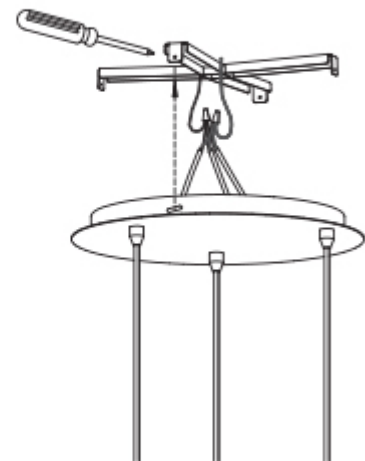

Figure 9
10. Remove the wire hanging hooks while lifting the cover plate up and around the four tabs on the cross-bracket. Make sure all wires are tucked safely inside. Align the slotted holes on the upper ring of the ceiling plate with the holes in the cross-bracket. Use the four assembly screws to join the two components together. Do not over-tighten. (Figure 9)